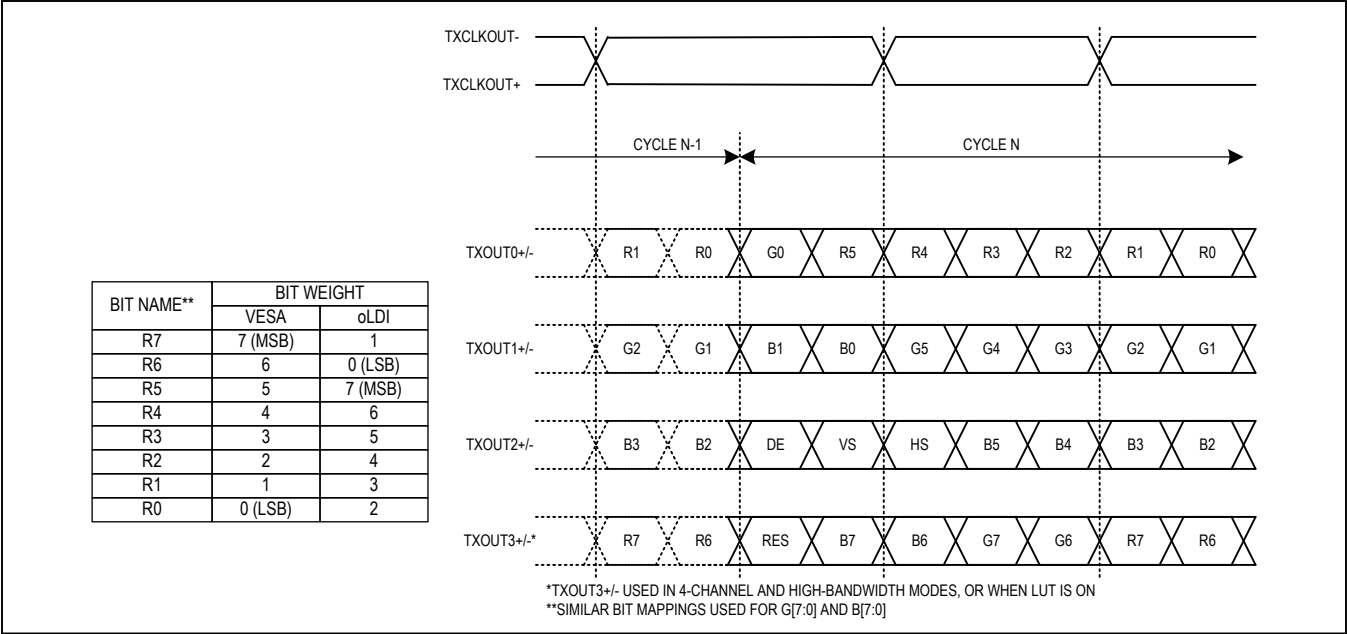

Figure 17. LVDS Clock and Bit Assignment
**Table 2. Output Map (See Figure 16 and Figure 17)**